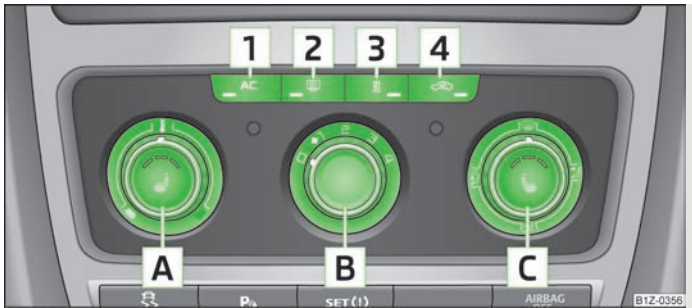

Fig. 89 The air conditioning system: Control elements
The cooling system only operates if the button **1** » Fig. 89 is pressed, and the following conditions are met:
- Turn the control dial **A** » Fig. 89 to the right to increase the temperature.
- Turn the blower switch **B** » Fig. 89 into one of the positions, 1 to 4, to switch the blower on.
- Press the button **4** to close the fresh air supply » Fig. 89.
- The direction of the inlet air flow is controlled with air distribution regulator **C** » Fig. 89 » page 85.
- Press the button **AC 1** » Fig. 89 and the indicator light in the button illuminates.
- Press the button **2** » Fig. 89. Further information » page 52.
- Press the button **3** » Fig. 89 to directly switch on/off the auxiliary heating (auxiliary heating and ventilation). Further information » page 92.
- Controls **A** » Fig. 89, **B**, **C** and buttons **1** and **4**.
- Press the button  **4** » Fig. 89 and the indicator light in the button illuminates.
- Press the button  **4** » Fig. 89 again - the indicator light in the button goes out.
Recirculated air mode is switched off automatically if the air distribution control **C** » Fig. 89 is in position . Recirculated air mode can be switched on again from this setting by repeatedly pressing the button .